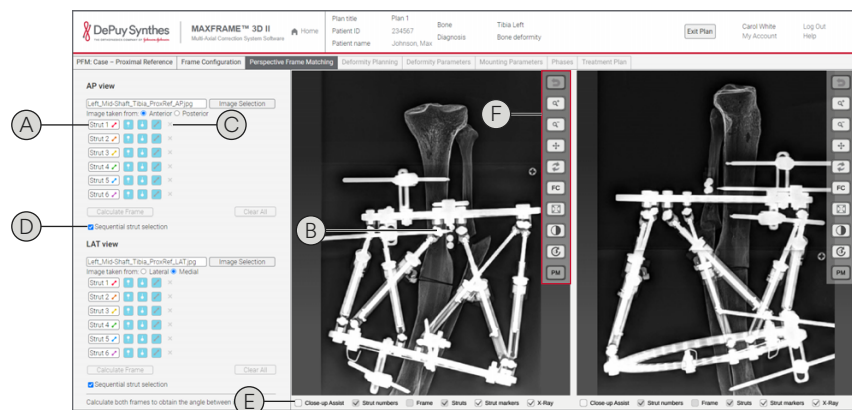

Figure 70 – PFM – Strut selection.
1. Click the corresponding strut selection button on the left side of the view (cf. [A] in figure 70). The button changes color to dark blue to indicate it has been selected.
3. Drag the mouse to the opposite hinge's position in the AP x-ray and click it. The selected position is marked with its associated hinge indicator (cf. [B] in figure 70).
Next to each strut selection button (cf. [A] in figure 70 on page 56), you find the following options to include or exclude specific components in the frame matching calculation:
To delete a single strut marker, click the **Delete** icon (✕) right to the corresponding strut selection button (cf. [C] in figure 70 on page 56).
Select the option *Sequential strut selection* (cf. [D] in figure 70 on page 56) to automatically select the next strut not yet drawn for the selected view (AP or LAT) after finishing drawing a strut.
The *Close-up Assist* (cf. [E] in figure 70 on page 56) aids you with adjusting the positions of the hinges. When selected, zoomed views of the proximal and the distal hinges of the selected strut are displayed below the regular view. You can adjust the position of the hinges directly in the close-up views.
To display a strut’s hinges in the zoomed views, click the corresponding strut selection button on the left side of the view (cf. [A] in figure 70 on page 56). Only the activated strut can be manipulated in the close-up assist windows.
The AP view and the LAT view offer the following functions in their toolbars (cf. [F] in figure 70 on page 56):